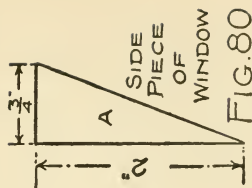

FIG. 80
**The Dormer Windows.** These are made from cigar-boxes. For the three dormers, you will require six pieces the shape of *A* for the sides, three of *B* for the gable-ends, and six of *C* for the roof (see Figs. 80, 81, and 82). With the different parts cut out, it is a simple matter to fasten them together on the roof, by means of glue and small brads. The glass is bound to the ends of the side-pieces at *D* and *E* with strips of